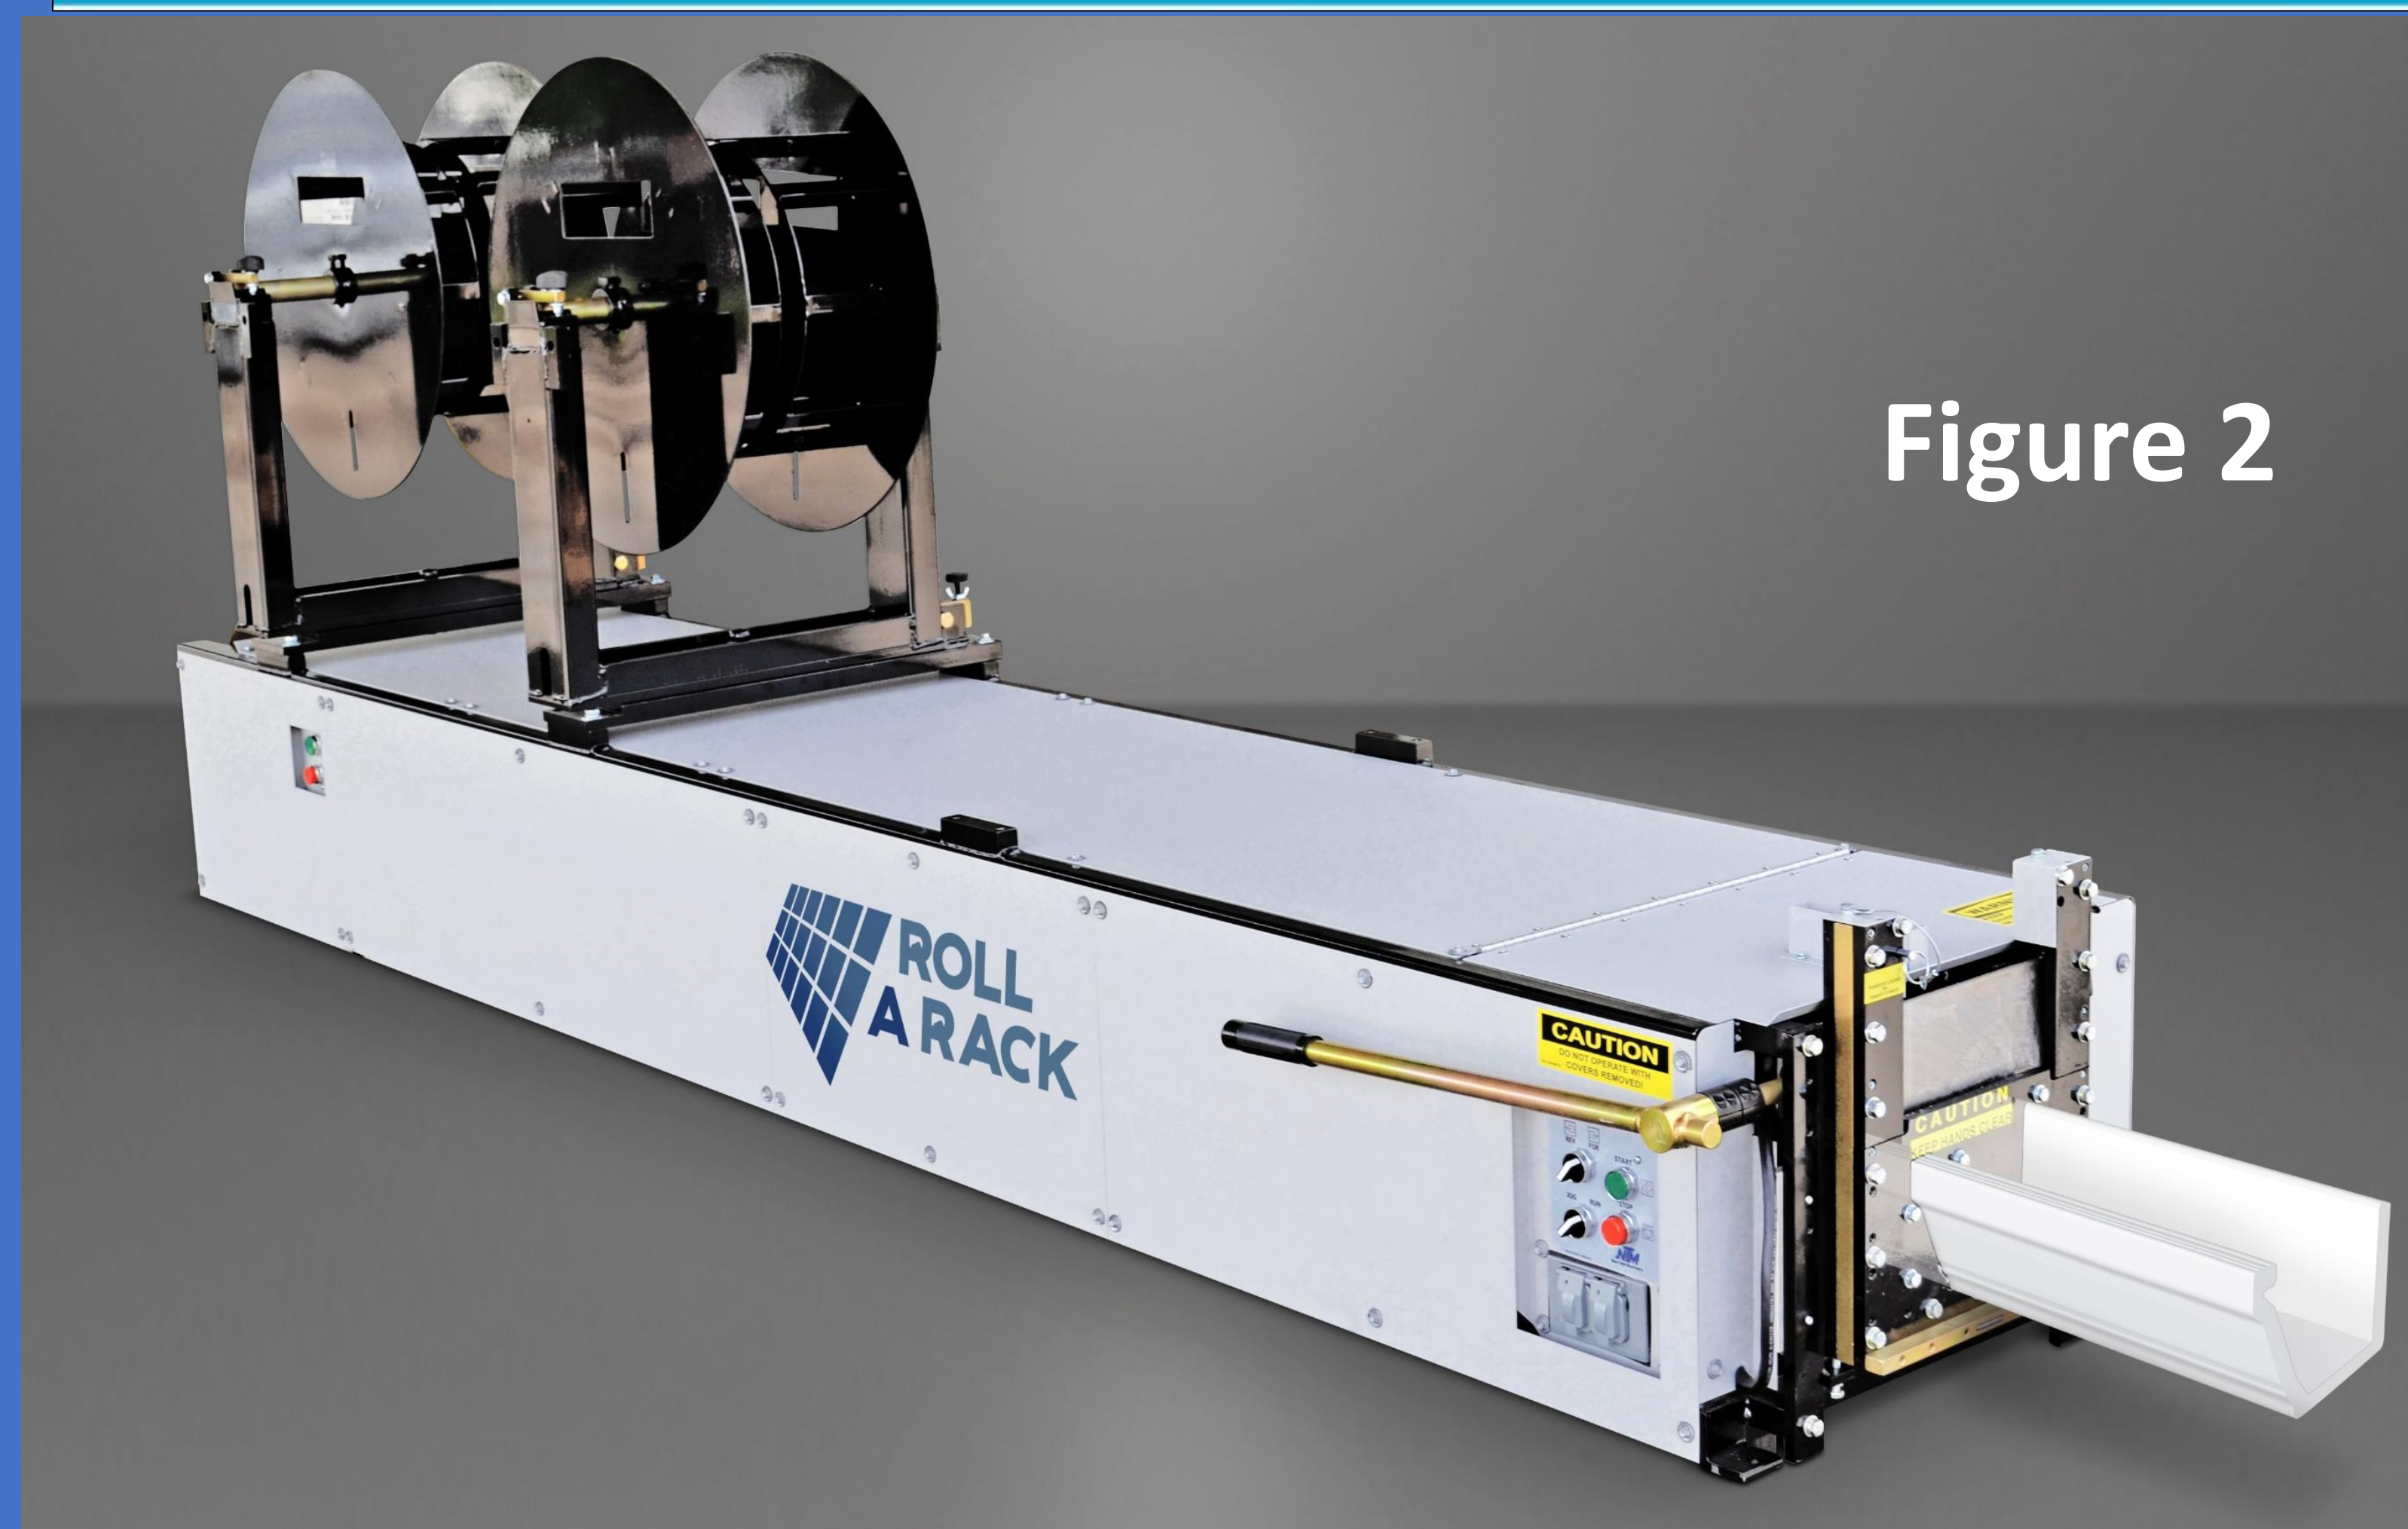

Figure 2
- A portable roll-forming machine “forms” the gutter from a coil of flat metal stock to custom lengths needed to fit the house dimensions. Roll-A-Rack uses the same technology to generate solar racking (Figure 2).